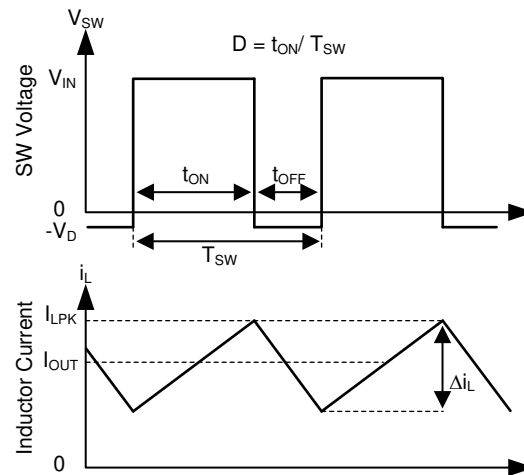

图 38. SW Node and Inductor Current Waveforms in Continuous Conduction Mode (CCM)
The following operating description of the TPS2583x-Q1 will refer to the Functional Block Diagram and the waveforms in Figure 38. TPS2583x-Q1 is a step-down synchronous buck regulator with integrated high-side (HS) and low-side (LS) switches (synchronous rectifier). The TPS2583x-Q1 supplies a regulated output voltage by turning on the HS and LS NMOS switches with controlled duty cycle. During high-side switch ON time, the SW pin voltage swings up to approximately V_{IN} , and the inductor current i_L increase with linear slope $(V_{IN} - V_{OUT}) / L$. When the HS switch is turned off by the control logic, the LS switch is turned on after an anti-shoot-through dead time. Inductor current discharges through the LS switch with a slope of $-V_{OUT} / L$. The control parameter of a buck converter is defined as Duty Cycle $D = t_{ON} / T_{SW}$, where t_{ON} is the high-side switch ON time and T_{SW} is the switching period. The regulator control loop maintains a constant output voltage by adjusting the duty cycle D . In an ideal buck converter, where losses are ignored, D is proportional to the output voltage and inversely proportional to the input voltage: $D = V_{OUT} / V_{IN}$.